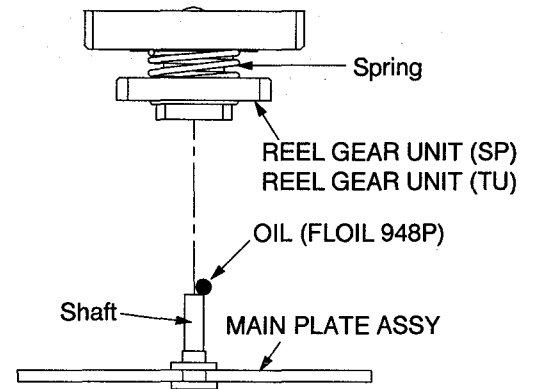

Fig. 2-22-2
1 Apply OIL (FLOIL 948P) [859D154O20] to the shaft shown in Fig. 2-22-2 in which the REEL GEAR UNIT (SP) of the MAIN PLATE ASSY is to enter.
2 Install the REEL GEAR UNIT (SP) shown in Fig. 2-22-2.
Note: Make sure the colour of the spring according to the table in Fig. 2-22-2 in installing the REEL GEAR UNIT (SP).
3 Apply OIL (FLOIL 948P) [859D154O20] to the shaft shown in Fig. 2-22-2 in which the REEL GEAR UNIT (TU) of the MAIN PLATE ASSY is to enter.
Note: Make sure the colour of the spring according to the table in Fig. 2-22-2 in installing the REEL GEAR UNIT (TU).